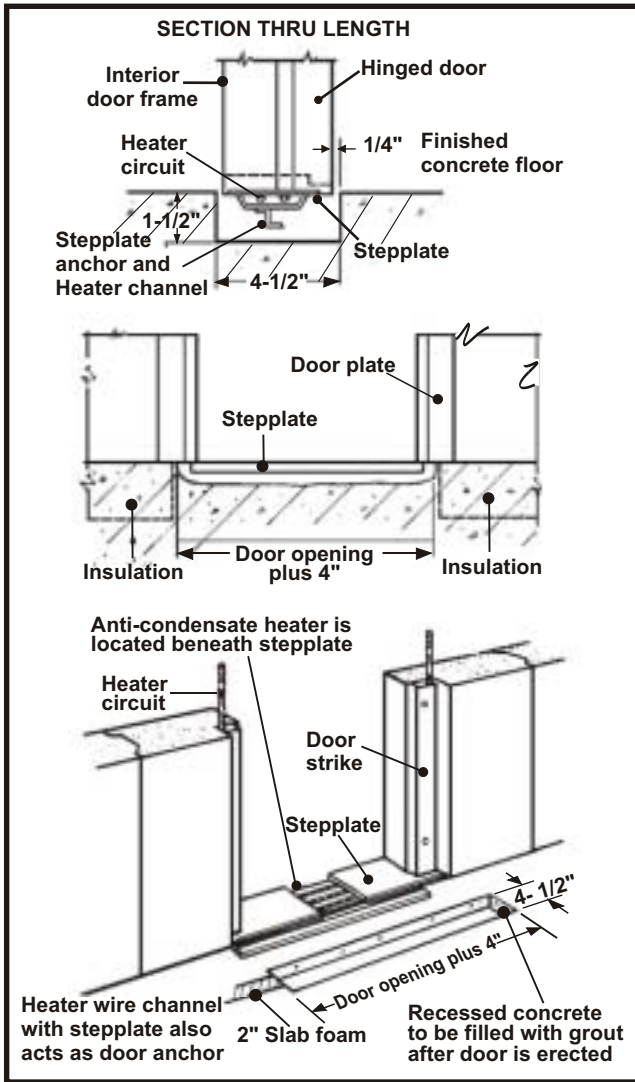

Fig. 24
- A. When erecting a door panel for an installation on a concrete floor and without Bally floor panels, it is necessary to provide a cutout in the concrete floor. The size of the cutout required for a hinged entrance door is shown in Fig. 24.